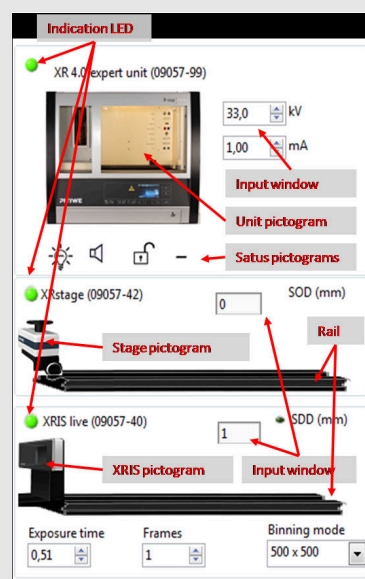

Fig. 3: Part of the user interface of the software
- Start the “measureCT” program. A virtual X-ray unit , rotation stage and Detector will be displayed on the screen. The green indication LED on the left of each components indicates that its presence has been detected (Fig. 3)
- You can change the High Voltage and current of the X-ray tube in the corresponding input windows or manually on the unit. (Fig. 3)
- When clicking on the unit pictogram additional information concerning the unit can be re-trieved(Fig. 3).
- The status pictogram indicate the status of the unit and can also be used to control the unit such as switching on and off the light or the X-rays (Fig. 3).
- The position of the digital detector can be adjusted to its real position either by moving the XRIS pictogram or by filling in the correct value in the input window. (Fig. 3).